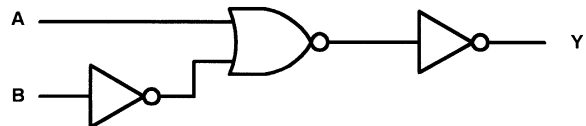

Figure 10.35
- 10.3 Construct the truth table for the logic gate arrangement shown in Fig. 10.35.